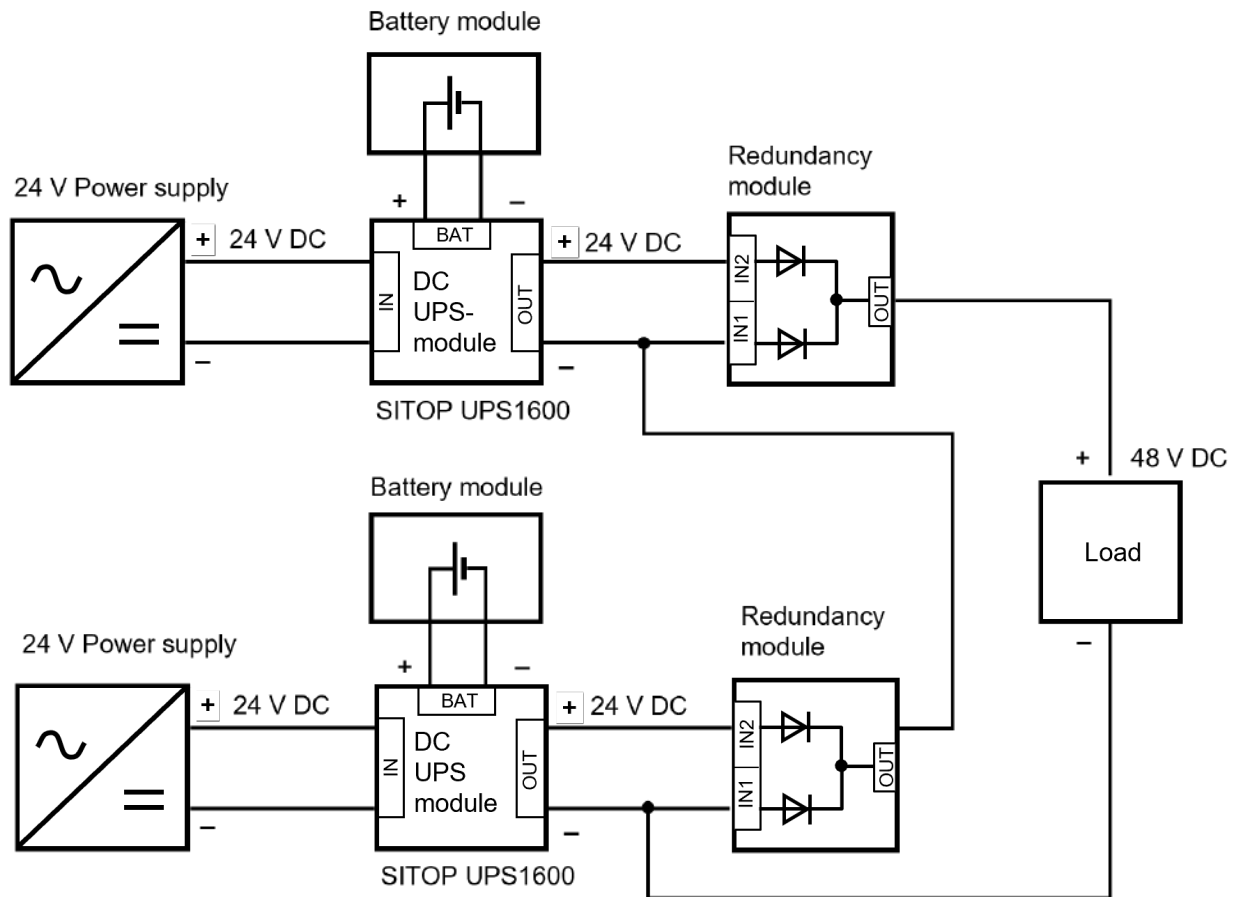

Figure 25: Two identical 24 V DC-UPS configurations connected in series for an uninterruptible 48 V DC
A 24 V SITOP UPS1600 uninterruptible power supply with UPS1100 or BAT1600 battery modules can be expanded to create a 48 V output voltage by connecting two identical DC-UPS configurations in series (Fig. 25). The following measures should be taken into consideration:
- A slight time offset between the two DC-UPS configurations when running up cannot be prevented, which means that a diode must be connected in an antiparallel configuration in parallel to the DC-UPS module outputs (see Fig. 25: Diodes at "IN1"). The reason is the same as described in Chapter "Protecting high efficiency switched-mode power supply units". Further, the diode protects the UPS1600, if, after longer buffer operation, a battery has been fully discharged and the other is still providing a voltage. In this case, the inactive DC-UPS module would be unnecessarily loaded by the 24V voltage of the still active DC-UPS module.
- A diode should be connected in the direction of current flow at the + 24V output of the DC-UPS module (see Fig. 25: Diodes at "IN2"). The diode protects against high voltages caused by loads that feed back energy, such as described in Chapter "Protecting against voltage feedback".